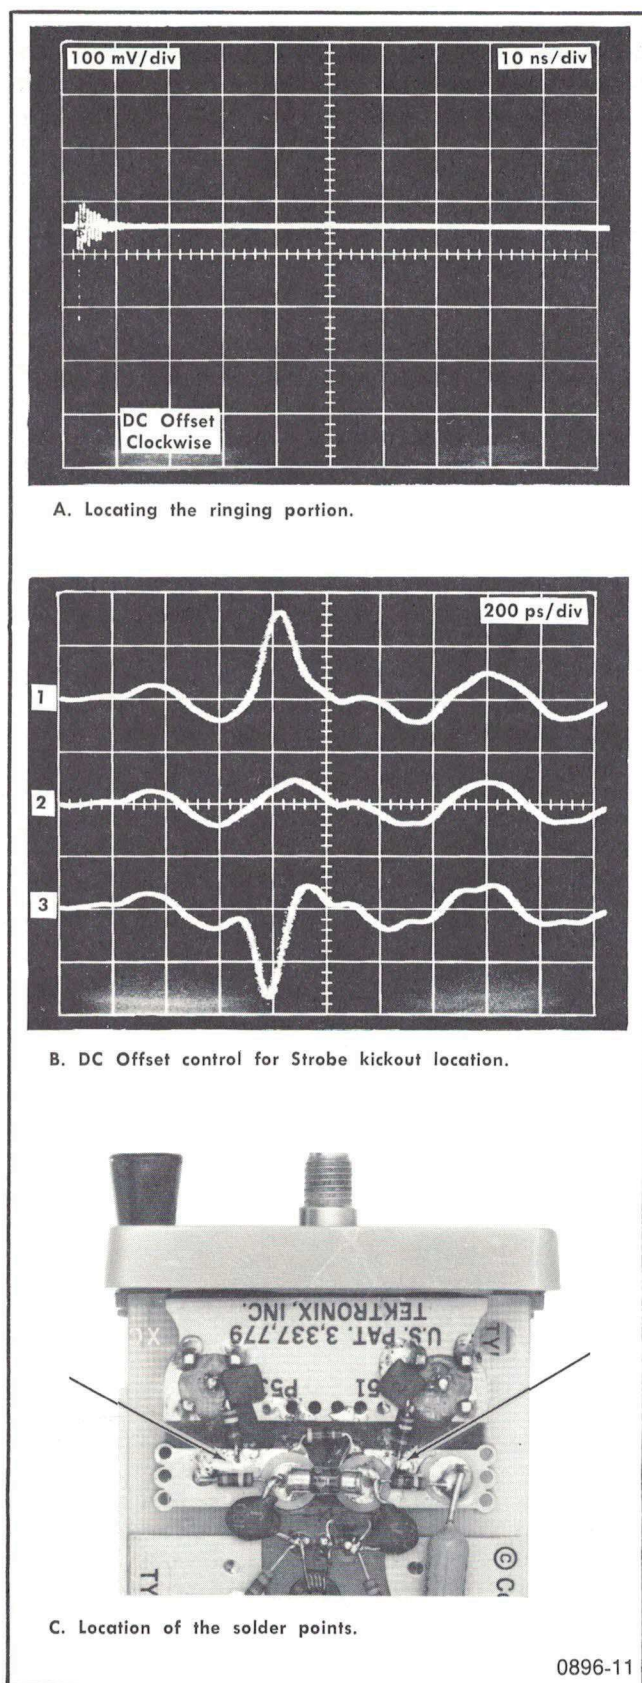

Fig. 4-4. Strobe kickout from the Type S-4 Input connector.
- f. Set the indicator oscilloscope sampling unit Units/Div switch to 2 and rotate the DC Offset control. The sampling test oscilloscope CRT display should show a spike in the ringing portion, positive for counterclockwise rotation and negative for clockwise rotation. This identifies the Strobe kickout. Place the ringing portion in the first division with the Time Position/control, see Fig. 4-4.
- g. Change the sampling test oscilloscope sweep rate to 200 ps/div. Fig. 4-4 shows the sampling unit (1) DC Offset
i. Reduce the kickout amplitude by moving the solder point on the clipping lines of R51 or R53. Since the solder points are at ground potential, the CRT display is observed as the lead is heated with a small soldering iron and moved with a soldering tool. Keep the solder points as close to R50 as possible. Fig. 4-4 shows the solder points on the clipping lines.